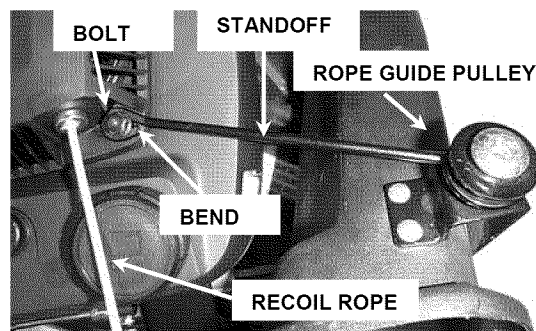

FIGURE 2.10a
**STEP 1a (Kawasaki only):** Attach Bag Adapter Standoff between rope guide pulley assembly and engine recoil. See Figure 2.10a.
**STEP 2:** Route recoil rope around recoil rope pulley on bag adapter. See Figure 2.10a. NOTE: Pulling Blade control against upper handle will allow extra recoil slack.